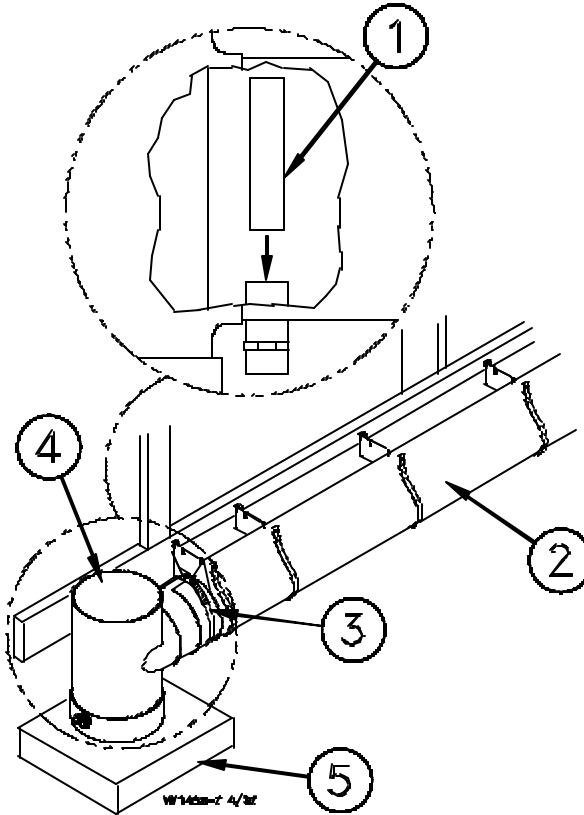

Figure 11. Sump Base Installation
1. Trim the Trough at the Sump end to 5" (12.7 cm) of overhang. Position the Sump Base at the sump end of the Trough, as shown in **Figure 11**. The Sump Base should set directly against the end Trough Support.
Secure the Sump Base in the end of the Trough, using an Adjustable Clamp, as shown in **Figure 11**.